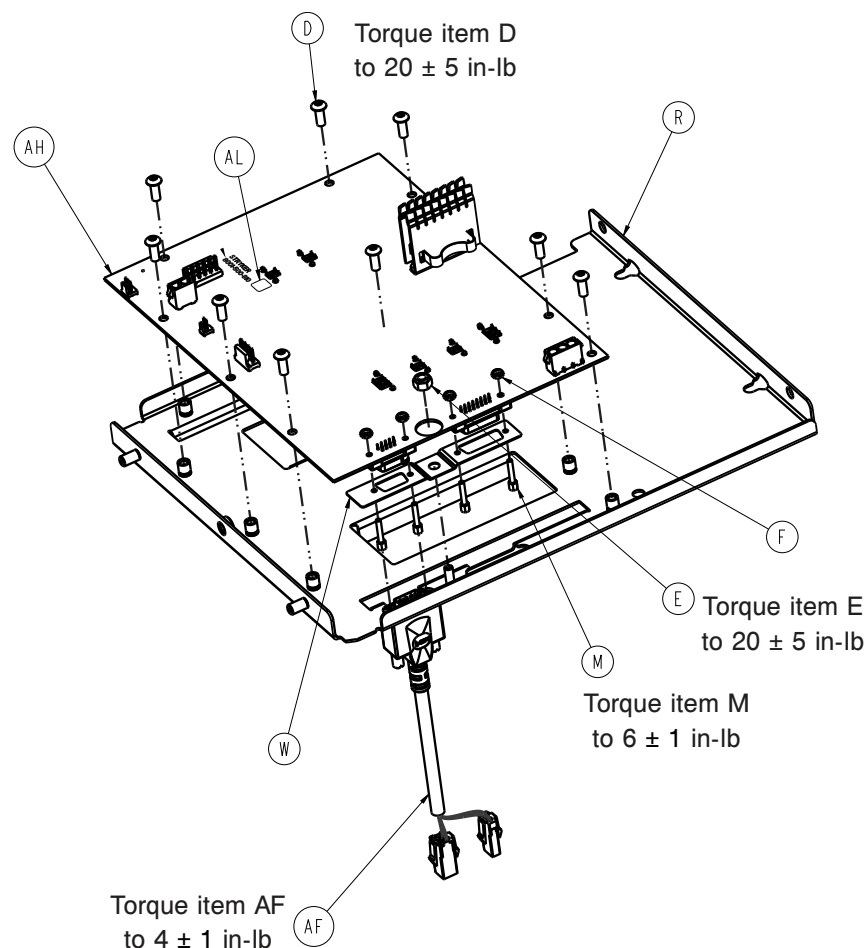

Figure 33 – Fluid grounding bracket
16. Using a T25 Torx driver, remove the nine screws (D) that secure the fluid management board to the control assembly base (R) (Figure 33). Save the screws.
17. Using a 3/8" socket, remove the nut (E) that secures the fluid grounding bracket to the control assembly base (Figure 33). Save the nut.